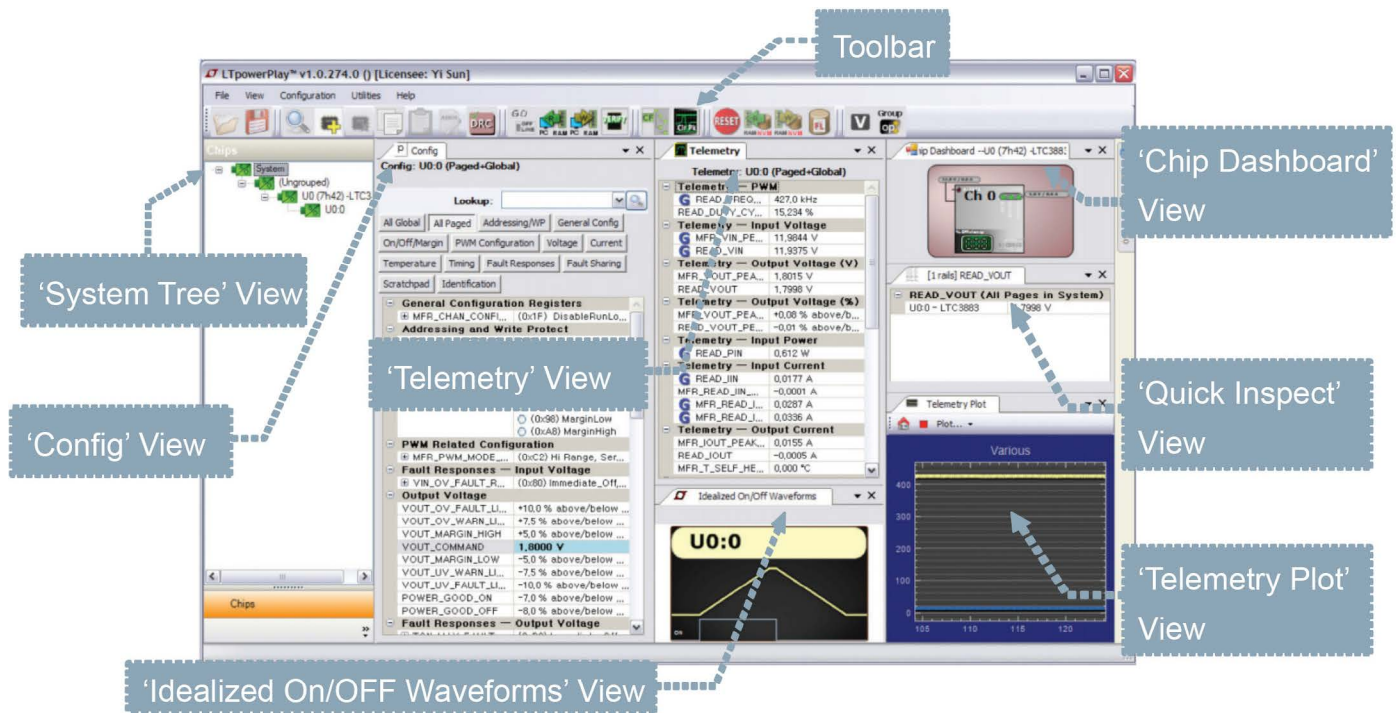

Figure 5. LTpowerPlay Interface of Programming the LTC3883
6. On your PC, launch LTpowerPlay. LTpowerPlay will identify the DC1890A and launch the appropriate GUI. See Figure 5.